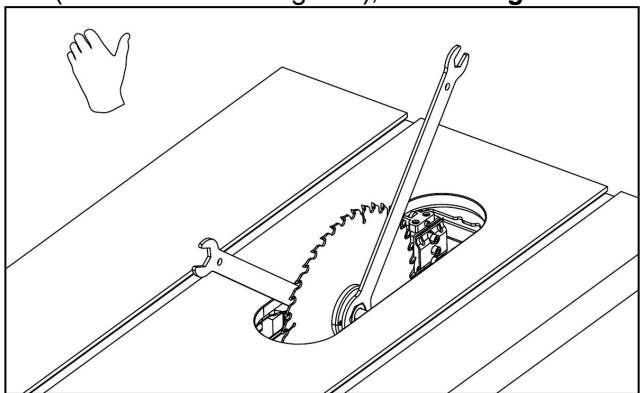

Fig.10
4. Use the included wrenches to tighten the arbor nut (turn clockwise to tighten), refer to **Fig.10**.